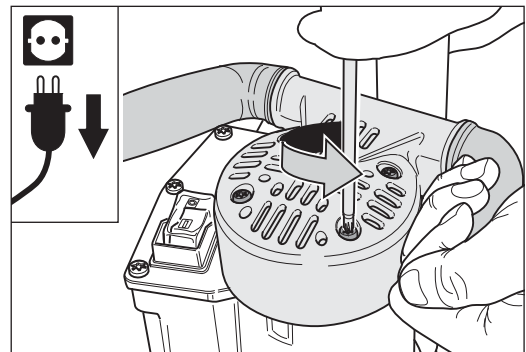
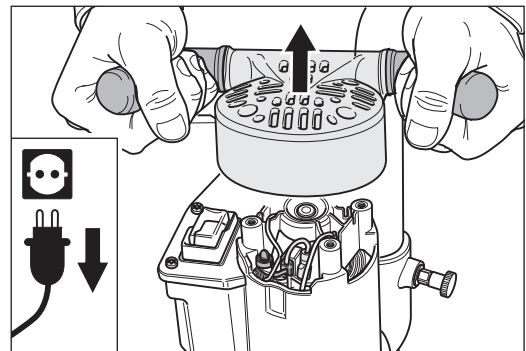

Fig. 47 Remove the four fixing screws of the handle.
Fig. 48 Remove the handle. **Make sure that no parts fall into the motor!**
- 3 Undo the four fixing screws of the handle (Fig. 47) and remove it from the motor housing (Fig. 48). **Make sure that no parts fall into the motor when doing so!**